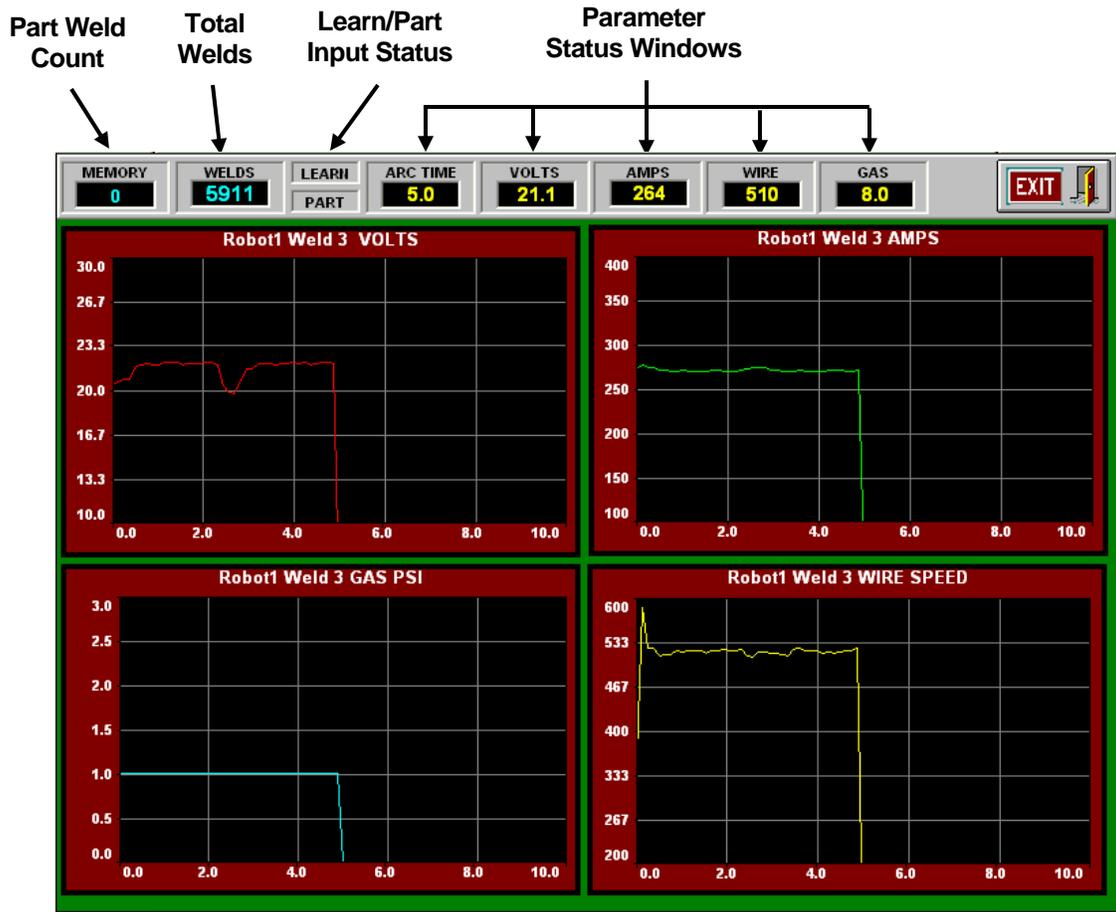

Figure 5 – Weld Data Graph Screen
- Set Minimum and Maximum GRAPH PARAMETER values for the graph displayed in the uADM DATA Screen (see Figure 5)
The GRAPH Configuration Panel enable the user to select the Minimum and Maximum values viewable for each parameter displayed on the GRAPH when the uADM DATA Button on the MAIN SCREEN is selected (see Figure 5 – uADM DATA GRAPH).